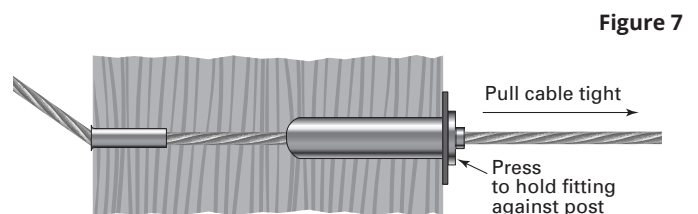

Figure 7
3. Push the Pull-Lock® fitting along the cable and firmly into the hole in your post. Pull on the cable (cable gripping pliers are helpful for this) to create as much tension as possible as you seat the Pull-Lock fitting into the hole. (Figure 7)